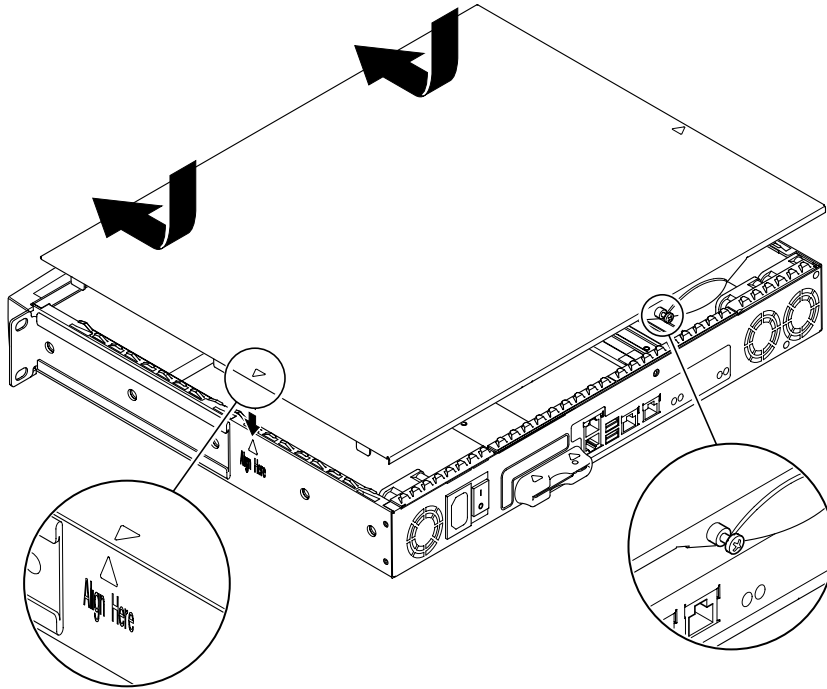

FIGURE 10-4 Replacing the Top Cover
6. **Replace the system cover and tighten the captive screw** (see FIGURE 10-4).
6. Replace the system cover and tighten the captive screw (see FIGURE 10-4).